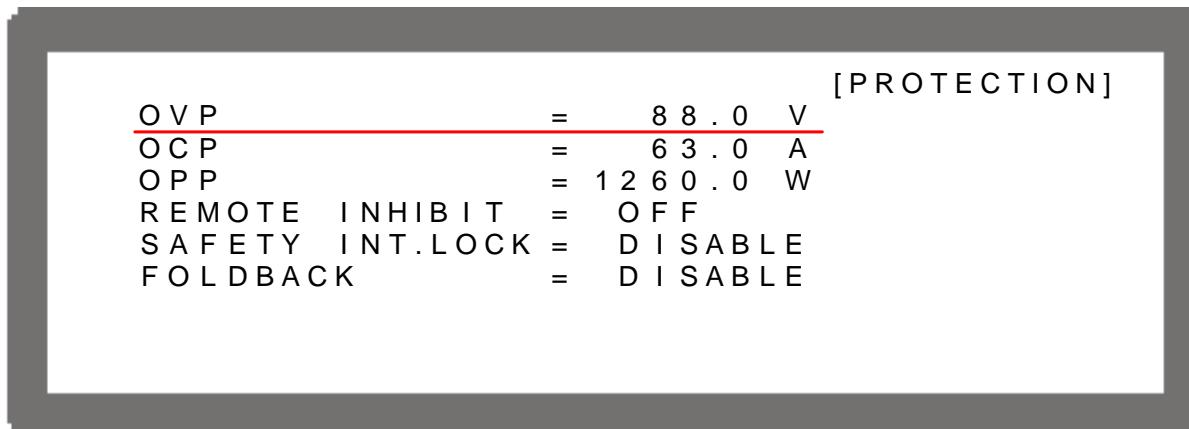

Figure 3-73
- Use “”, “” keys to move the cursor to the column to be set as Figure 3-73 shows.